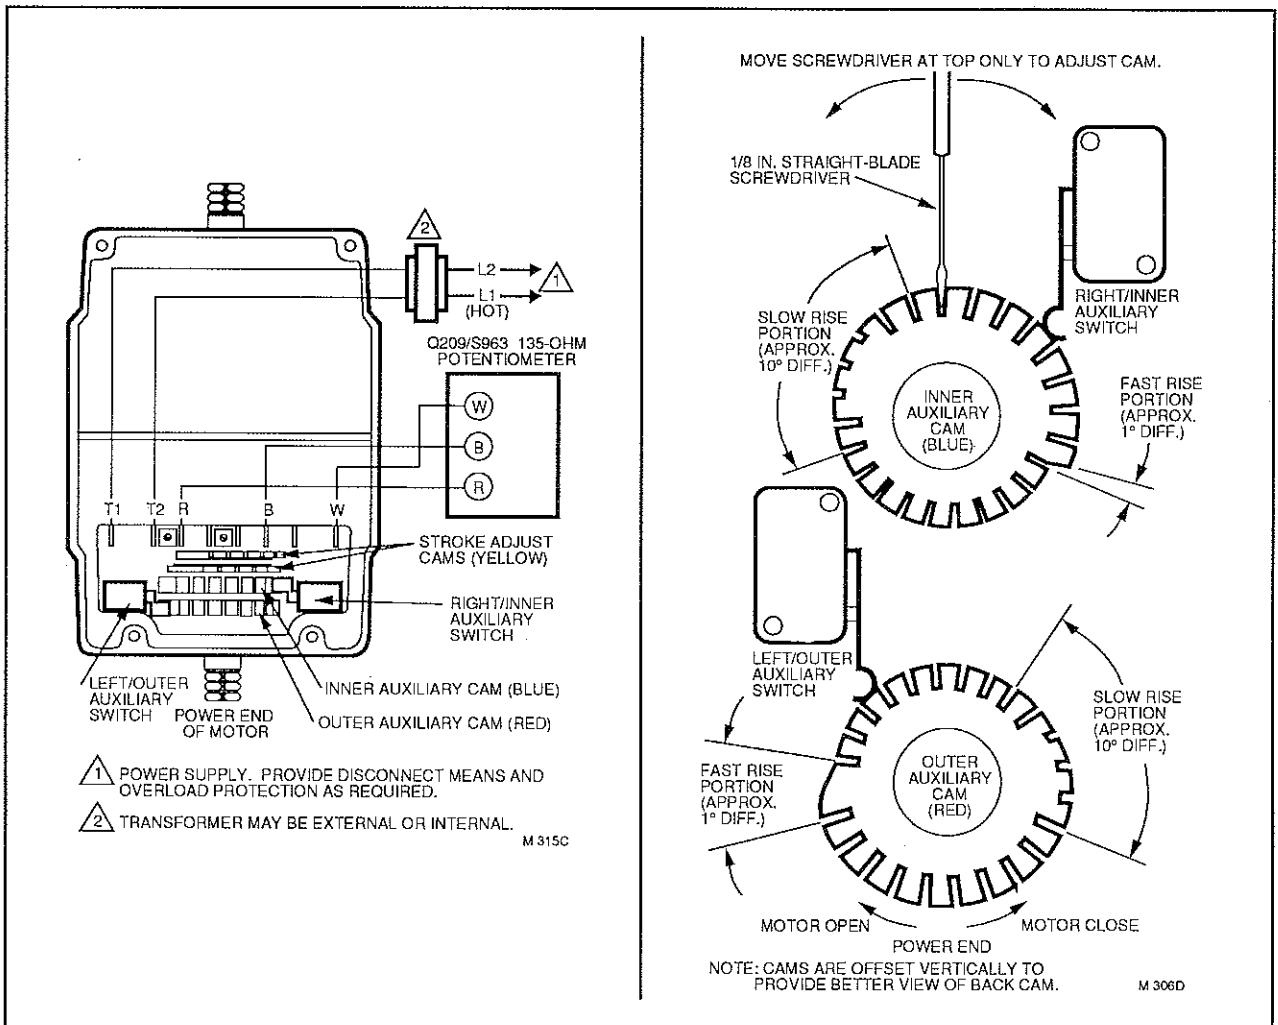

FIG. 22—AUXILIARY SWITCH ADJUSTMENT.
#### AUXILIARY SWITCH SETTING PROCEDURE (Fig. 22)
2. Disconnect controller from motor and connect 135 ohm manual potentiometer with R,W,B terminals on pot connected to corresponding terminals on motor (Fig. 22).